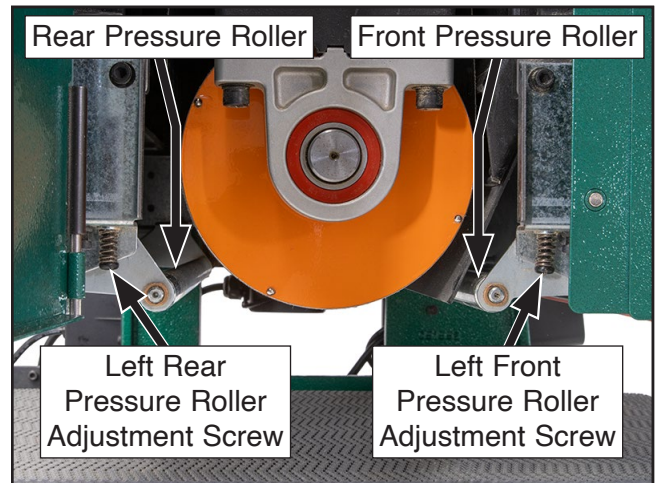
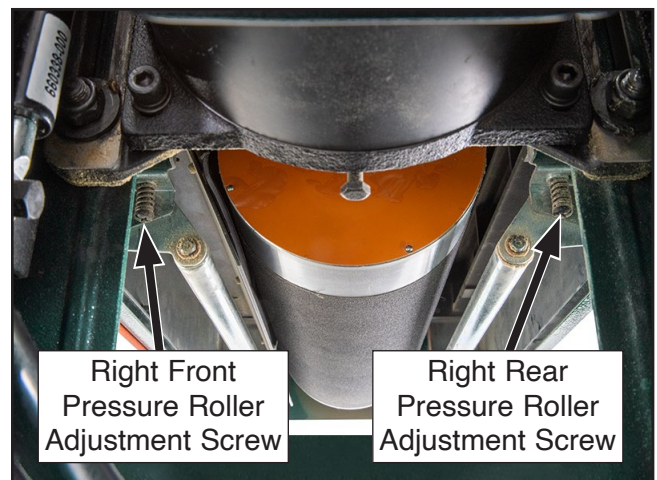

Figure 47. Location of left pressure roller adjustment screws.
Figure 48. Location of right pressure roller adjustment screws.
- Lower drum until gauge blocks just touch rear pressure roller (see **Figure 47**).
9. Adjust rear pressure roller adjustment screws (see **Figure 47–Figure 48**), repeating **Step 8** to test adjustment until rear pressure roller is 0.035" (0.9mm) below drum on either side.
12. Adjust front pressure roller adjustment screws (see **Figure 47–Figure 48**), repeating **Step 11** to test adjustment until front pressure roller is 0.035" (0.9mm) below drum on either side.